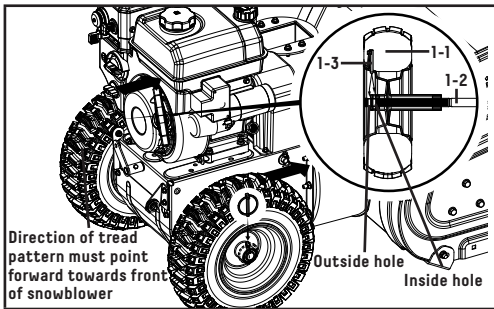

Figure 1
1. Slide the left wheel (1-1) onto axle (1-2) as the arrow shows. Tread pattern should face forward. Place axle pin (1-3) into wheel. The axle has a centre hole to attach the wheel to the axle (which connects to the drive train). Once inserted, fold around axle to hold in place (Fig. 1).